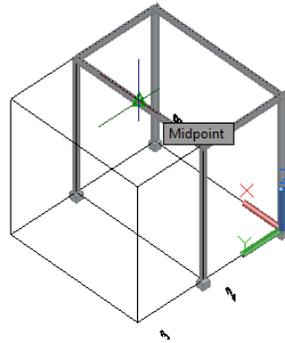

Figure 3-42 Selecting the first point
- Rotate the model and select the midpoint on the top edge of the member, as shown in the Figure 3-42; you are prompted to select the second point.